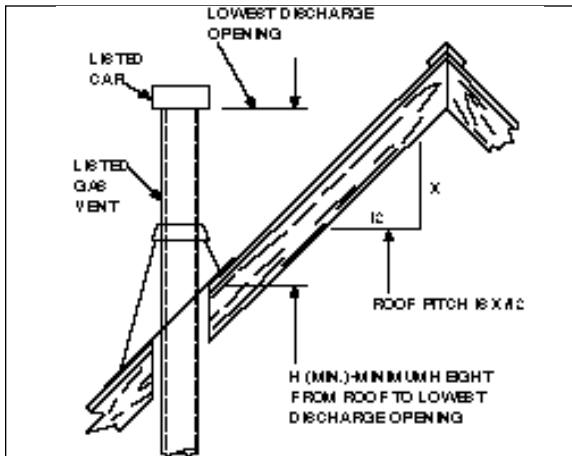

Figure 15 Venting System Height if Termination Location is at Least 8' From a Vertical Wall
Locate the point where the venting will exit the roof by plumbing down to the center of the vent. Drive a nail up through the roof to mark the center. See Figure 15.
10. Termination cap. Major building codes specify a minimum venting system height above the roof top depending on roof pitch. See Figures 15 and 16.